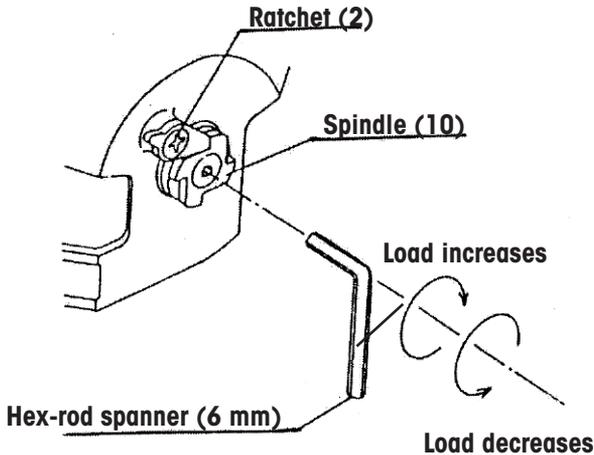

Figure 2
Adjust the spiral spring by turning the spindle (10) to ensure that it conforms to the hung load. Turn it to the right to increase the load, and to the left to decrease the load (Fig. 2) Note that the factory setting is in the middle of the capacity range.